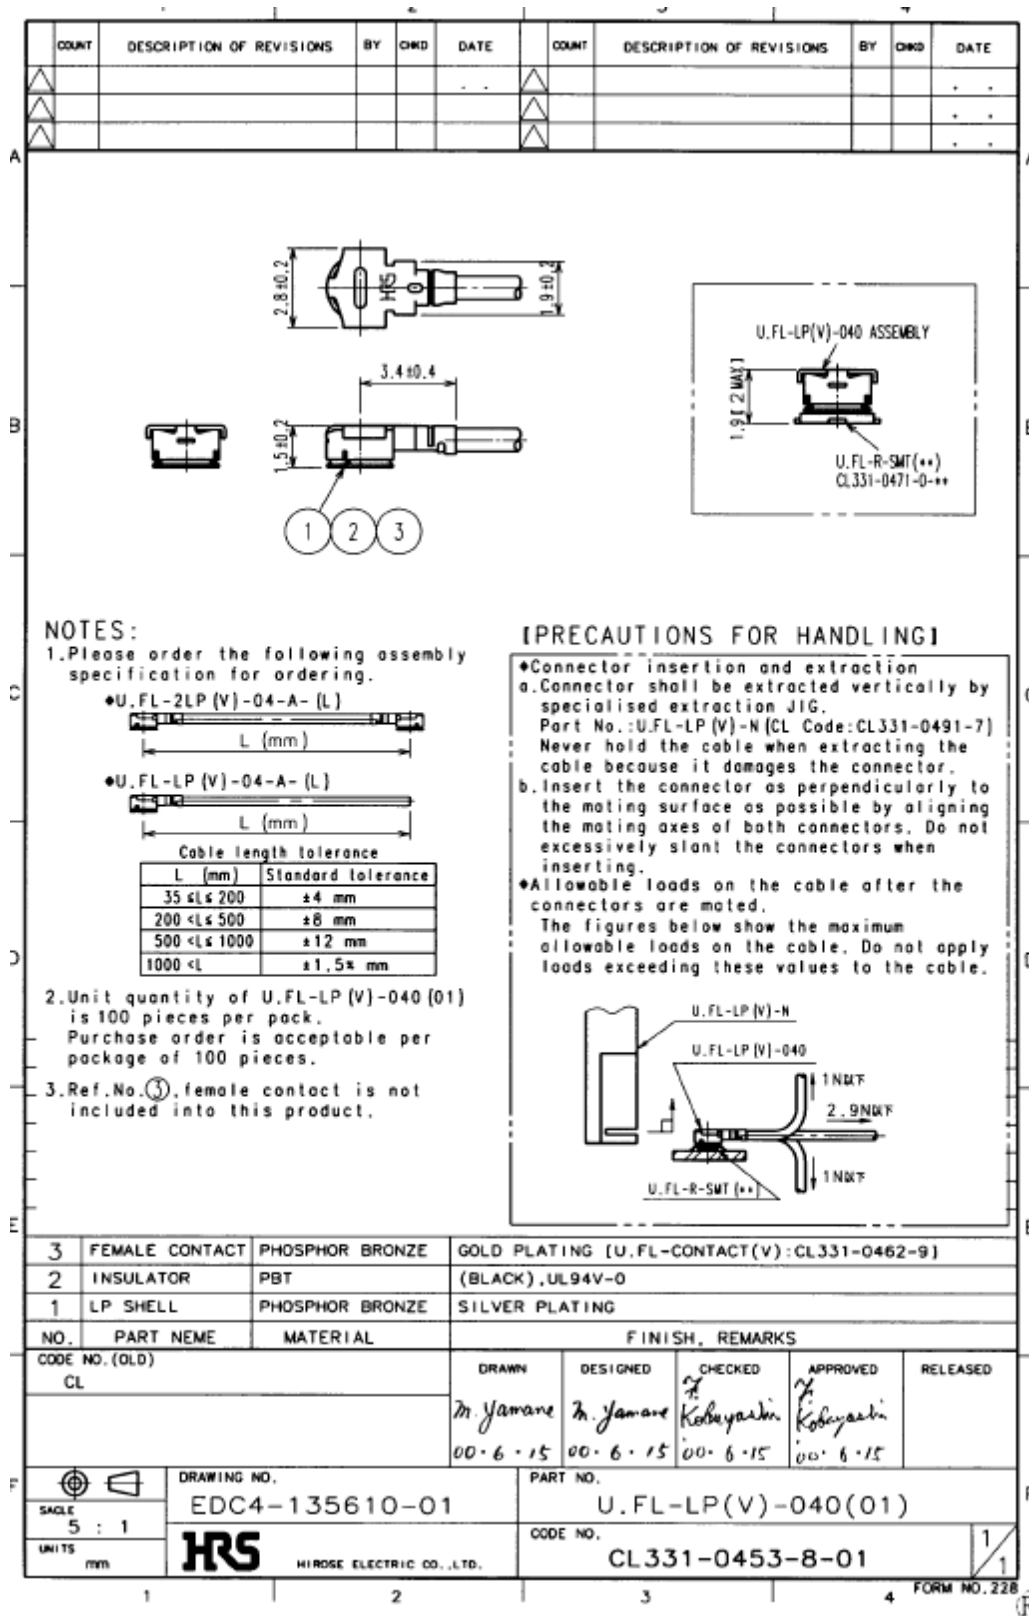

Figure 41: Specifications of U.FL-LP-(V)-040(01) plug
In addition to the connectors illustrated above, the U.FL-LP-(V)-040(01) version is offered as an extremely space saving solution. This plug is intended for use with extra fine cable (up to  $\varnothing 0.81$  mm) and minimizes the mating height to 2 mm. See Figure 41 which shows the Hirose datasheet.